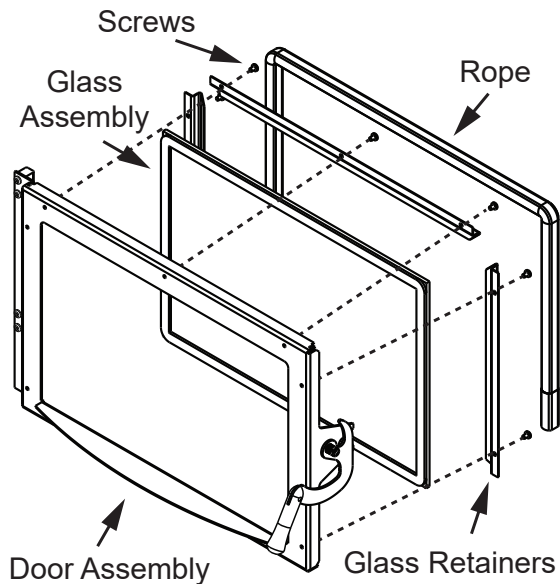

Figure 26.1
4. Slide the retainer rod into the top hole first, and then line up the bottom crimped end with the hole in the door. The crimped end must be parallel with the glass in order to insert it into place (**Figure 26.1**).